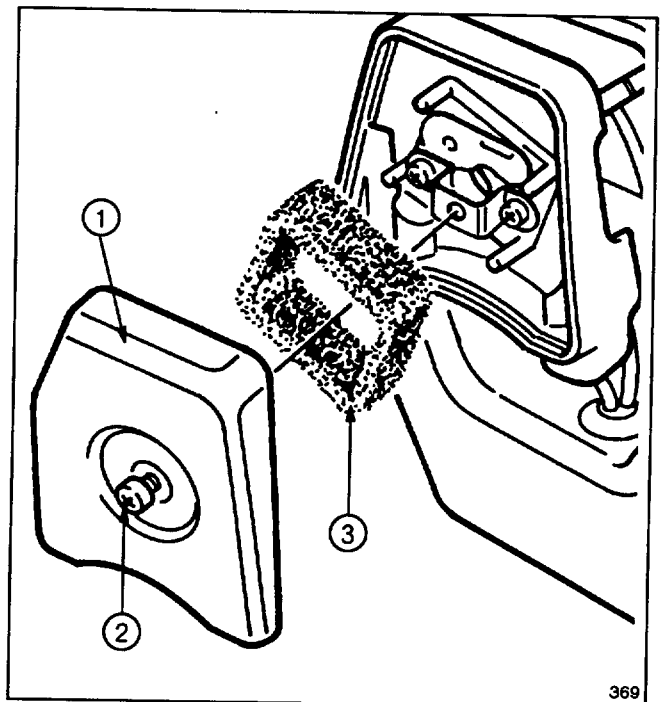

Figure 18
## SERVICING AIR CLEANER (Fig. 18)
- Reinstall air cleaner components as shown in Figure 18.